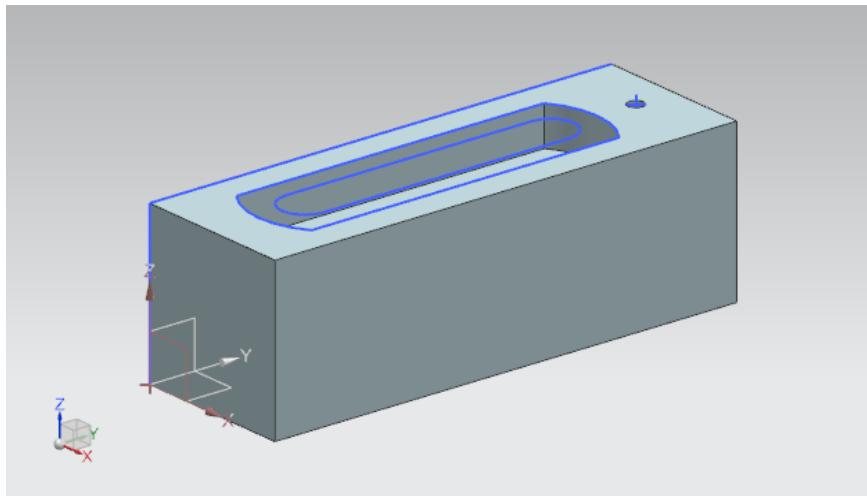

Figure 44: 3D model of the photoelectric sensor
- A photoelectric sensor (see Figure 44).